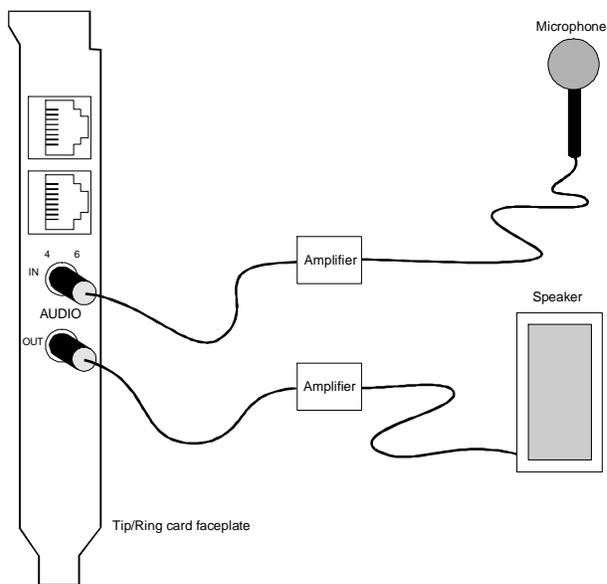

Figure 10-15. Connecting the Tip/Ring Circuit Card and Graphical Speech Editor
2. Plug the microphone cable into the AUDIO IN jack on the faceplate of the T/R circuit card (Figure 10-15). This connection dedicates line 0 of the T/R circuit card.